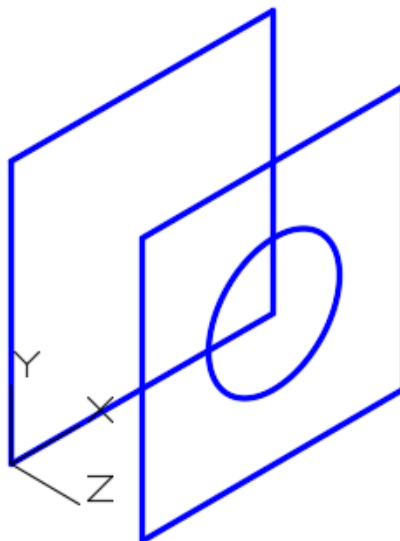

Figure Step 7
Step 7 Draw a 6 inch diameter circle exactly in the center of the copied square. (Figure Step 7)